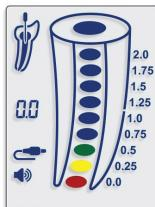

Fig. 10
- 5.4.13. Reaching the apical foramen (0.0) is indicated by a red color segment inside the root canal image (Fig. 10) and a constant audio tone. Determine the electronically obtained length using an endodontic ruler. To establish the working length, subtract 0.5 - 1.0mm from the electronic length.